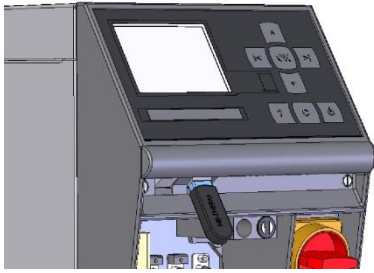

Fig. 75: Connect USB data carrier
2. Connect USB data carrier (Fig. 75).